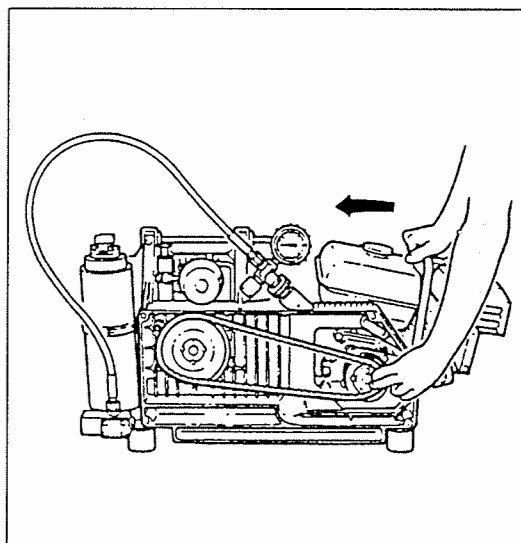

Fig. 22 V-belt pulleys
- Then lift motor, place V-belt onto both V-belt pulleys (Fig. 22).